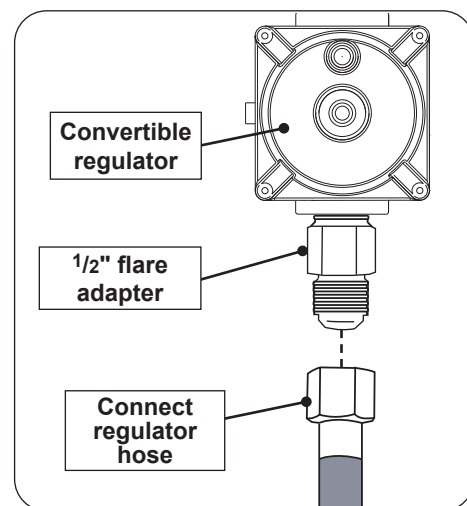

Fig. 6-1 Attach regulator hose to grill
2. Locate the convertible regulator and 1/2" flare adapter coming down from inside the grill (see Fig. 6-1).
3. Attach the regulator hose assembly to the flare adapter (see Fig. 6-1).